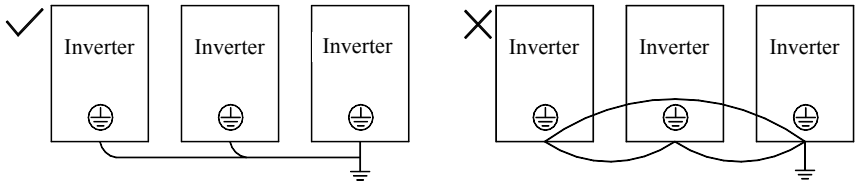

Figure 3-11 Connection Methods of Grounding Cable
- Do not allow grounding cable to form a circuit when two or more inverters are used. Correct and incorrect grounding methods are shown in Figure 3-11.